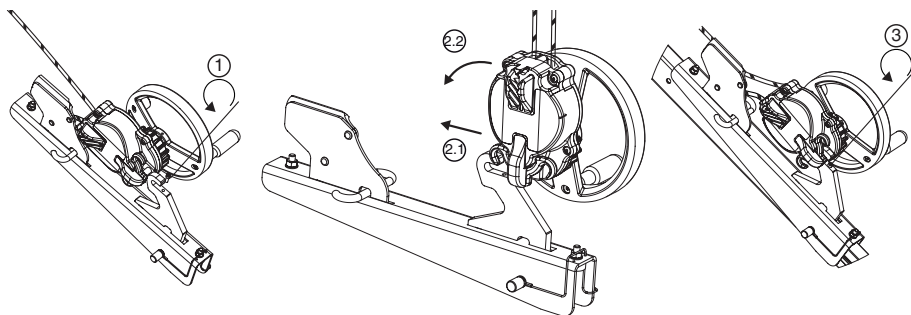

Fig. 8
6.3.4. derope™ descender UP R (Figs. 8, 9 and 10)
The derope™ UP R descender must be secured to the leg of the Tractel® trapcode as shown in Fig.8. Any other mounting position on any other point of the Tractel® trapcode is strictly prohibited.
1. Unscrew the screw securing the hook by which the bracket is fastened to the derope™ UP R descender (Fig. 8,1).
2. Install the derope™ UP R descender on the fastening hook (Fig. 8, 2.1 – 2.2).
3. Screw in the locking screw to prevent the unit from separating from its bracket (Fig.8, 3) and check that it is properly positioned and tightened.